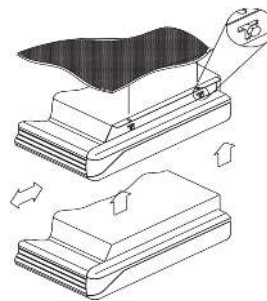

Figure 6
- (1) See Table 1 for hanging weights. Dry coil.
- (2) For unit dimensions, See Table 2
- (3) Select position for unit and define direction of water pipe, drainpipe and electrical wiring.
- (4) Bracket dimension and locations. See Table 3
- (5) Ensure the unit is installed per all prevailing codes.
- (6) Ensure the structural strength of the supporting members is sufficient.
- (7) Remove unit from the carton and carefully place the unit to the installed position and tighten the (4) bolts. See figure 6 and 7